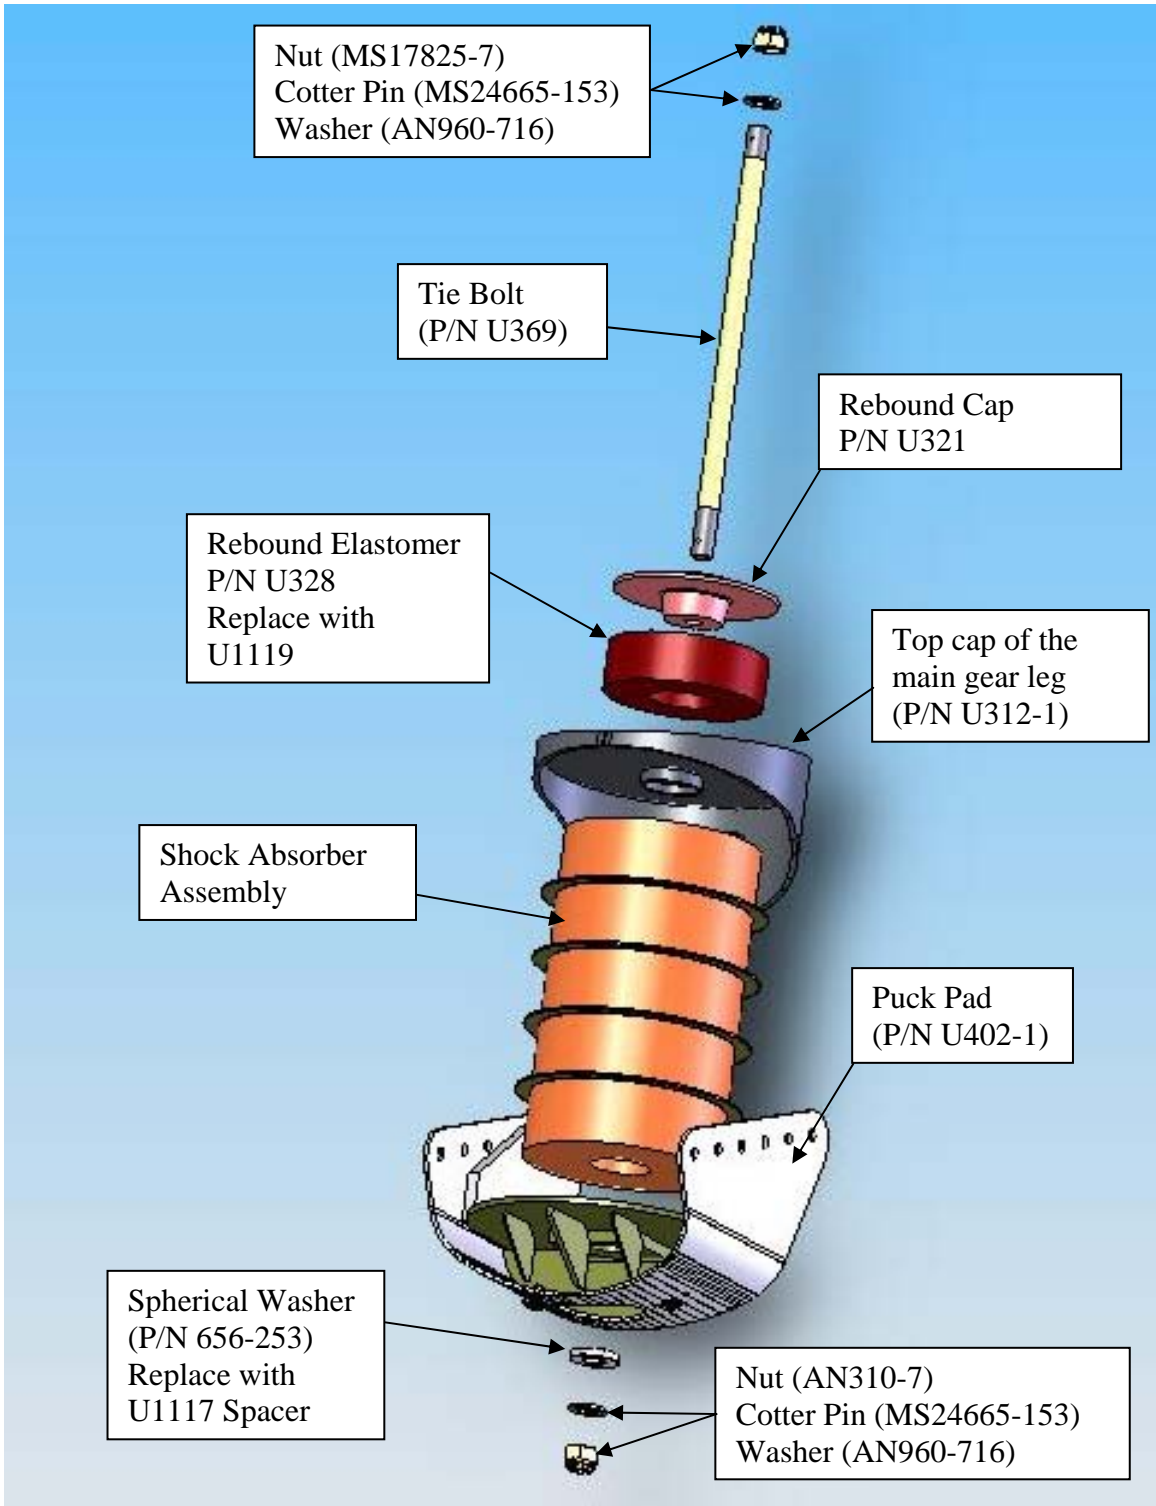

Figure 2 Shock Absorber Assembly
3. With the full weight of the aircraft on the landing gear there should be free play in the spherical washer at the bottom end of the tie bolts as shown in Figure 2. If this is not the case more weight must be added to the aircraft until the washers are free.